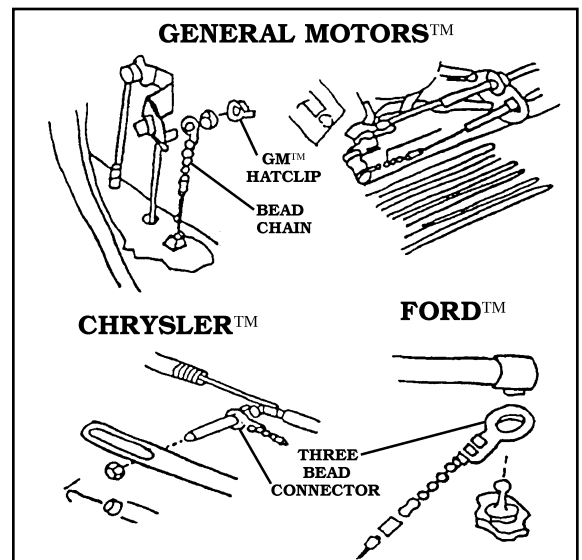

FIGURE 16
1. MOST **GENERAL MOTORS™** VEHICLES AND MANY **CHRYSLER™** VEHICLES CAN USE THE **THREE BEAD CONNECTOR** TO ATTACH THE **CRUISE CABLE**. **FIGURE 16**